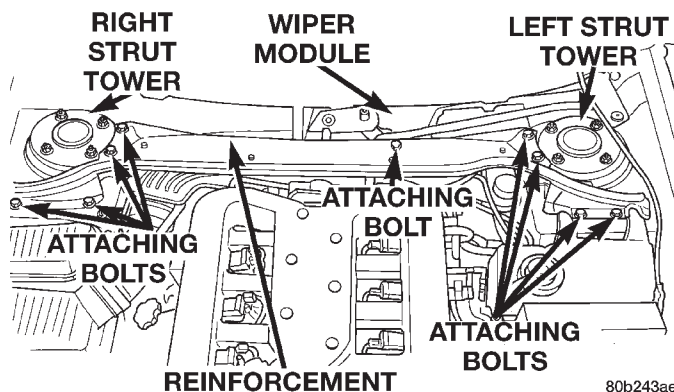
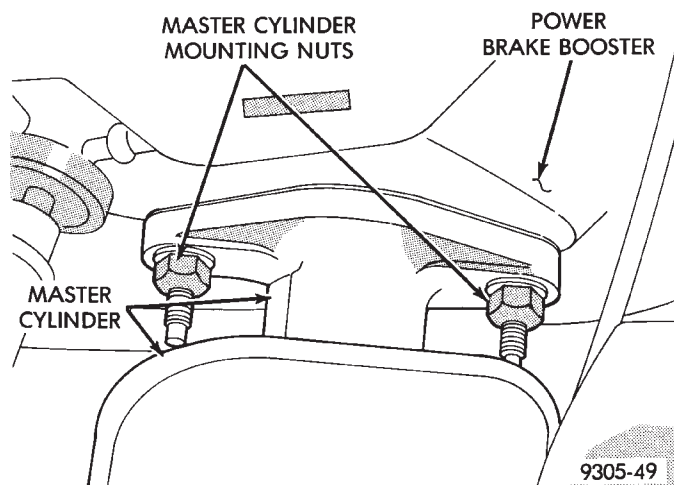

Fig. 55 Reinforcement Attachment To Vehicle
Fig. 56 Master Cylinder Mounting
(5) Remove the 8 bolts, attaching the reinforcement (Fig. 55) to the strut towers and the 1 bolt (Fig. 55) attaching the wiper module to the reinforcement. Remove the reinforcement from the vehicle.
(6) Disconnect the wire connector from the brake fluid level sensor on the right side of the master cylinder reservoir.
(7) Remove the 2 nuts (Fig. 56) attaching the master cylinder to the vacuum booster.
(5) Carefully position master cylinder on vacuum booster. Position wire harness routing bracket onto right master cylinder mounting stud.
(6) Install and tighten the 2 master cylinder to vacuum booster mounting nuts (Fig. 56) to 29 N·m (250 in. lbs.) torque.
(7) Reconnect brake fluid level sensor connector.
(8) Connect all vacuum hoses onto the vacuum booster check valve.
(9) Check stop light switch operation.
(10) Install the wiper module reinforcement (Fig. 55) on the vehicle. Install the 8 bolts, attaching the reinforcement (Fig. 55) to the strut towers. Install the bolt (Fig. 55) attaching the wiper module to the reinforcement.